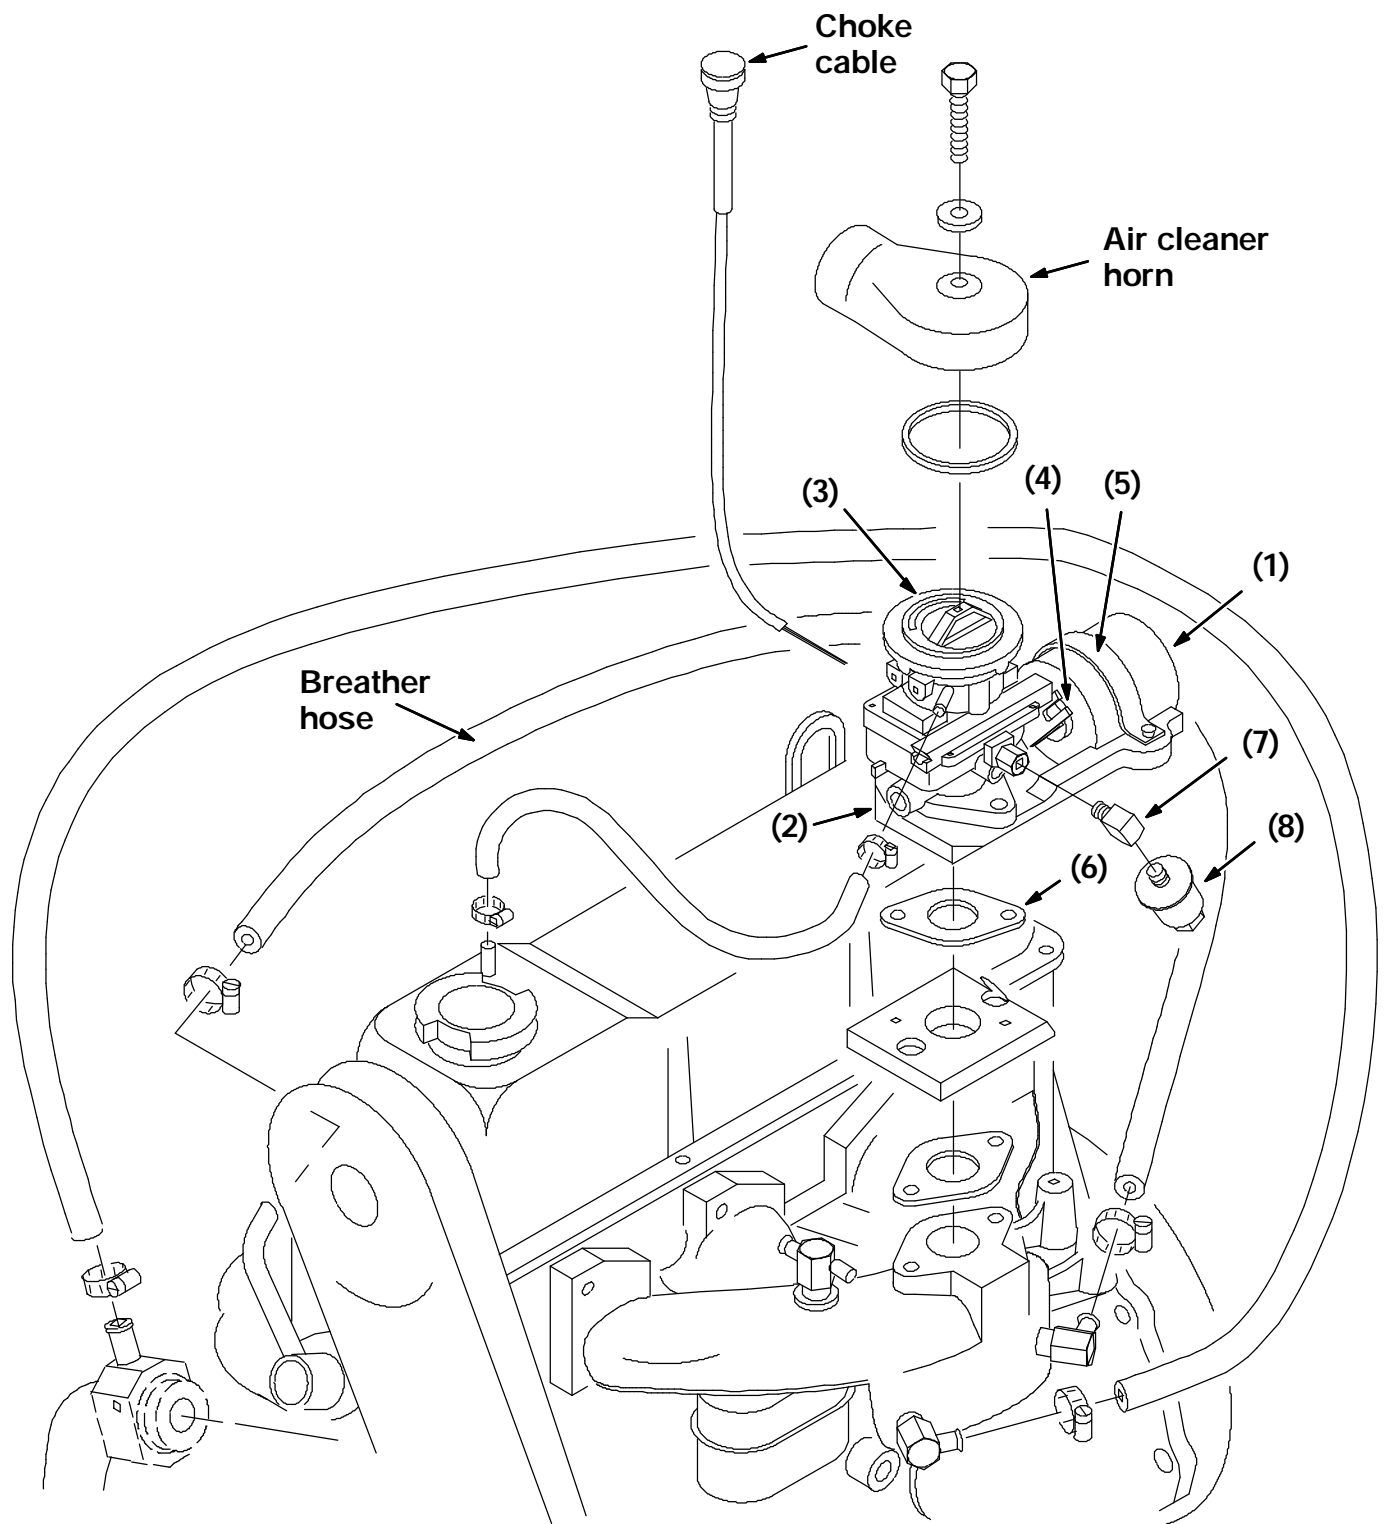

FIG. 4 - 2.3 Gas Governor Assembly
3. Remove the air cleaner horn from the carburetor. (Refer to FIG. 4)
4. Remove the hose from the carburetor that leads to the engine breather. (Refer to FIG. 4)
5. Remove the choke cable from the carburetor. (gas machine) (Refer to FIG. 4)
6. Remove the air cleaner horn from the carburetor. (gas machine) (Refer to FIG. 4)
7. Remove the hose from the carburetor that leads to the engine breather. (Refer to FIG. 4)